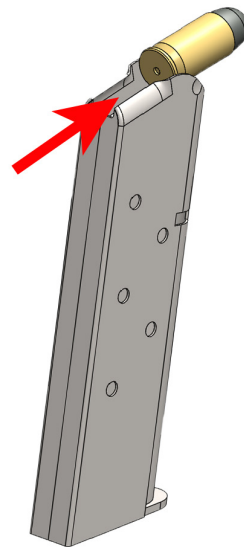

Figure 22
- Unload the magazine by holding it with the bullet end of the cartridge pointing away from you and pressing each cartridge forward and out of the magazine – Figure 22.